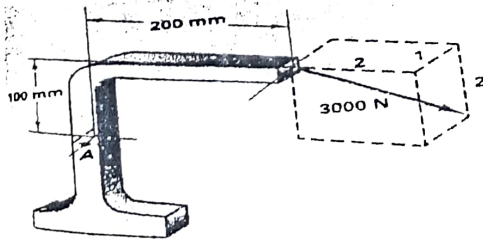

Figure: 1
- (b) A bent rectangular bar is subjected to an inclined force of  $3000 \text{ N}$ , as shown in figure 1 below. The cross section of the bar is  $12 \times 12 \text{ mm}$ . Determine the state of stress at point A caused by the applied force and also find the maximum principal stress. (6 Marks)